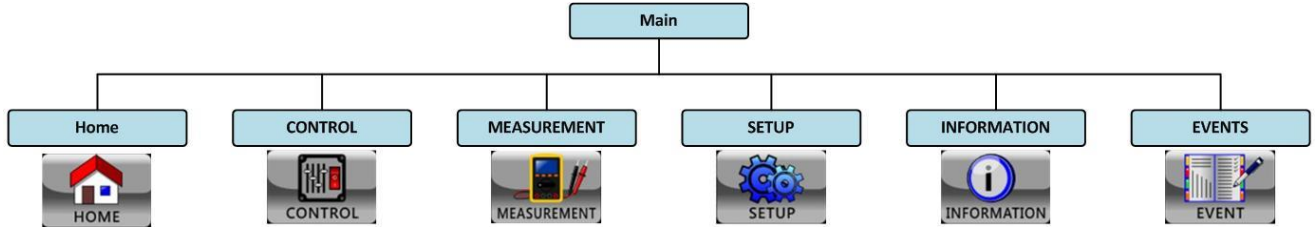

Figure 3-4 Menu Tree
- (1) UPS operation mode: It shows UPS current operation mode and status.
- (2) UPS flow chart: It shows current flow chart and measurement data.
(3) Main menu: Touch each icon to enter submenu. Refer to Figure 3-4 for menu tree.